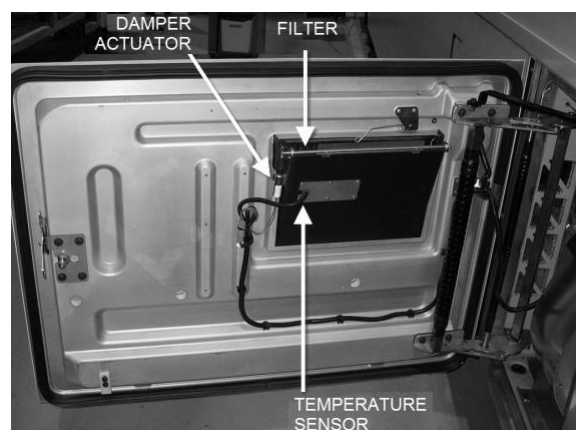

FIGURE 62: X3 SERIES PASSENGERS' AREA FRESH AIR DAMPER
- X3 Series - On the evaporator compartment door (Figure 62).